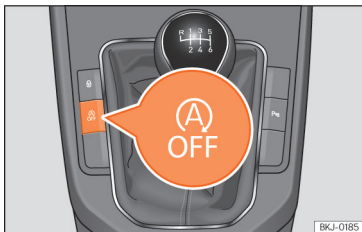

Fig. 83 Centre console: Start-Stop system button.
- To manually switch on/off the Start-Stop system, press the  button >>> **Fig. 83**